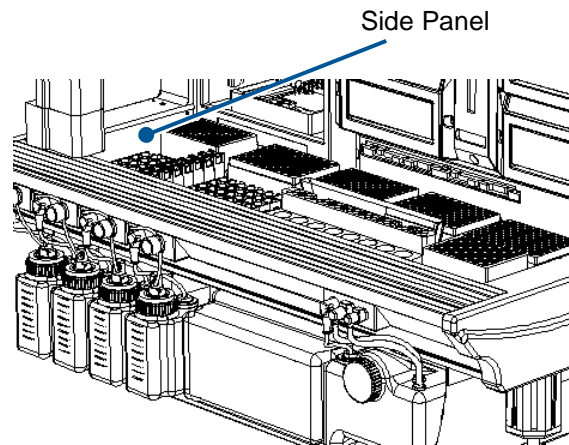

Figure 153: Lifting the Front Panel
1. Lift the rear edge of the metal panel at the front of the system (Figure 153) to expose the tubing.